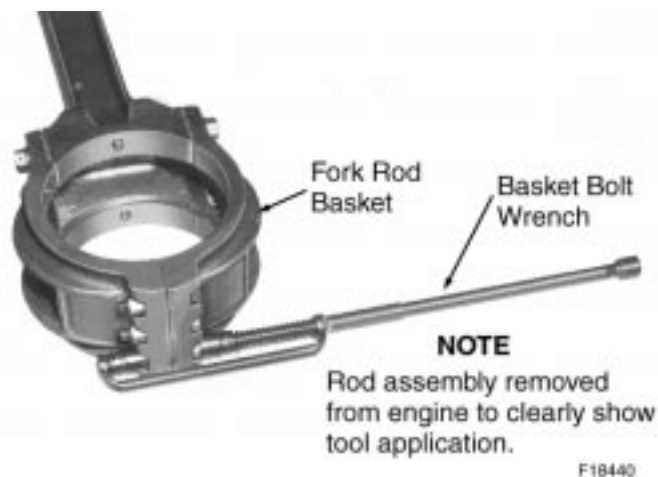

Figure 5-33. Basket Bolt Wrench Application
33. Using the spring-loaded basket bolt wrench, Figure 5-33., torque the lower basket bolts to specified value.